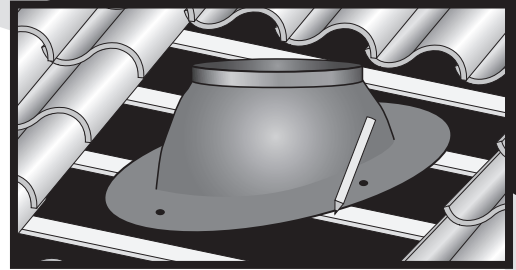

Figure 1
**1.** On the roof, locate the centering hole (from **Step 4** of the tubular skylight installation) and carefully remove surrounding tiles. Remove enough tiles to accommodate the skirt. Place flashing over the location where the unit will be installed and mark around the flashing footprint onto the furring strips (see Figure 1). Remove the portion of the furring strips where the flashing will be installed (allowing the flashing to sit directly on roof sheathing).